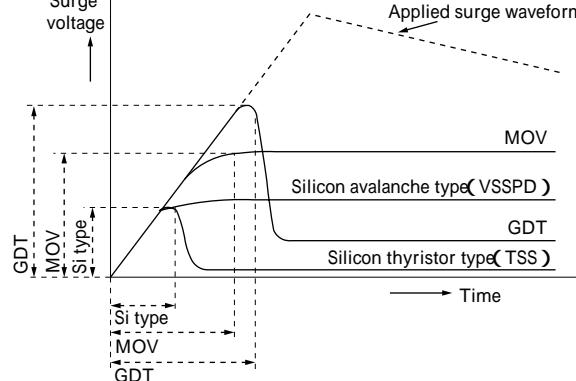

Fig.1 Response waveforms of various types of surge protective device
(1)Rapid response to abnormal voltage(see Fig.1).